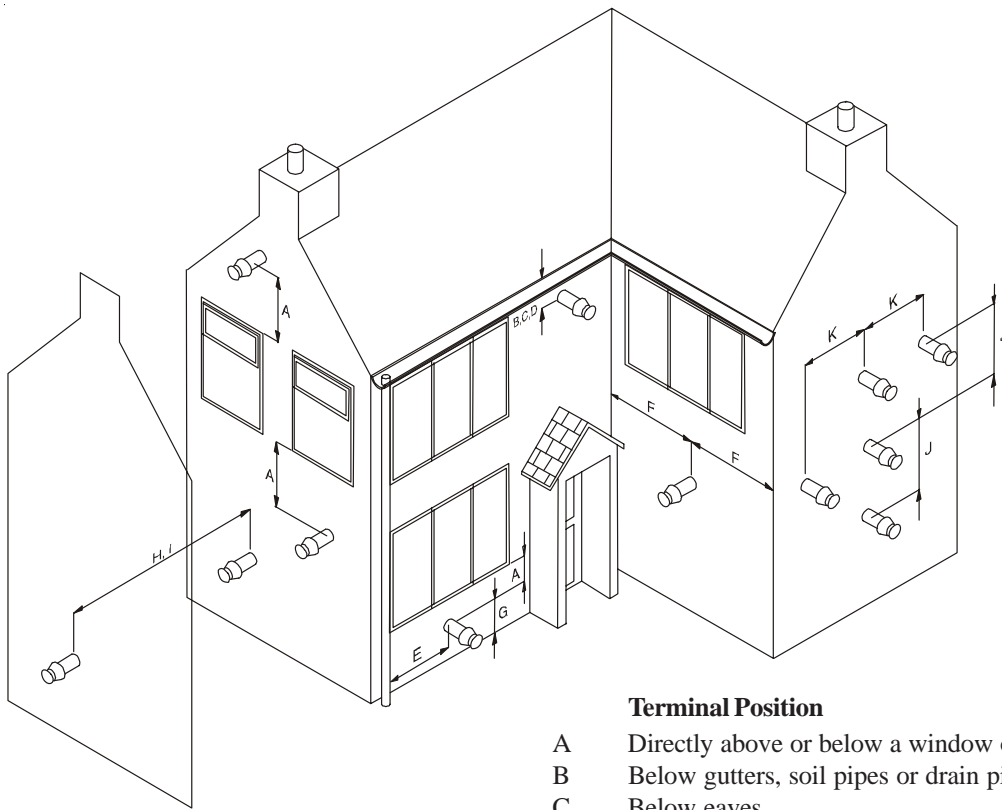

Fig.4
- 5.2.4 Fig. 4 shows recommended terminal positions